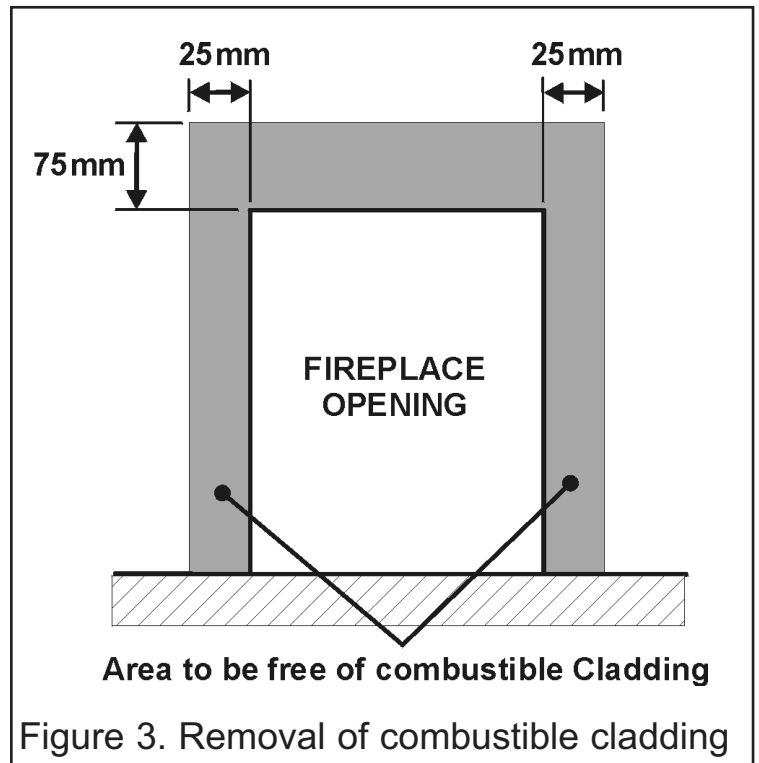

Figure 3. Removal of combustible cladding
4.7.3 If the appliance is to be fitted against a wall with combustible cladding, the cladding must be removed from the area shown in figure 3.